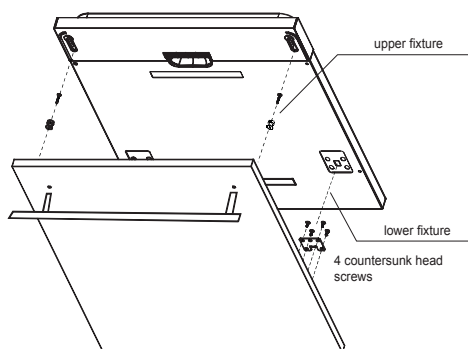

Figure 4a. Mounting the decorative panel
2. Place the fixtures onto the decorative panel, fasten the panel to the door using them (Figure 4a).